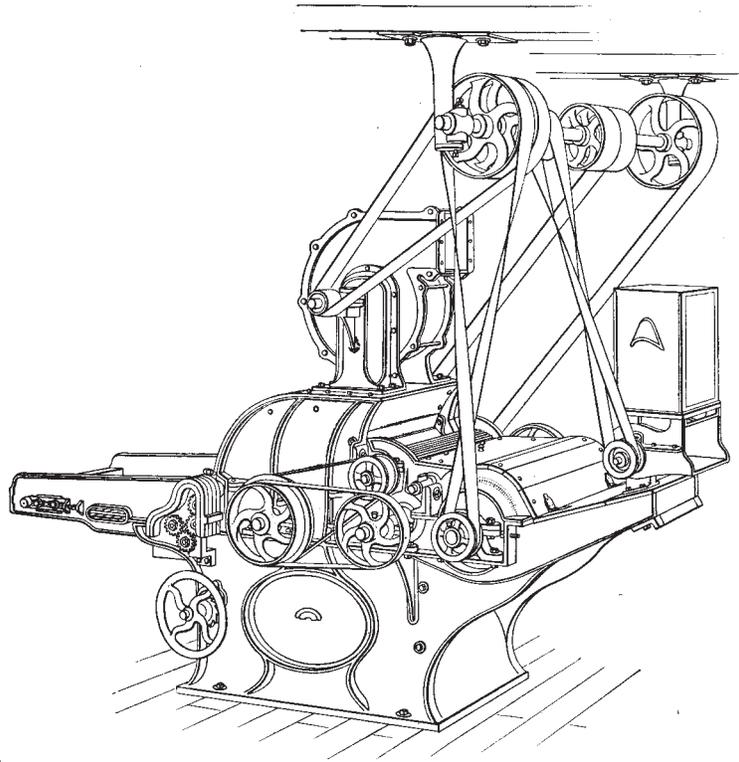
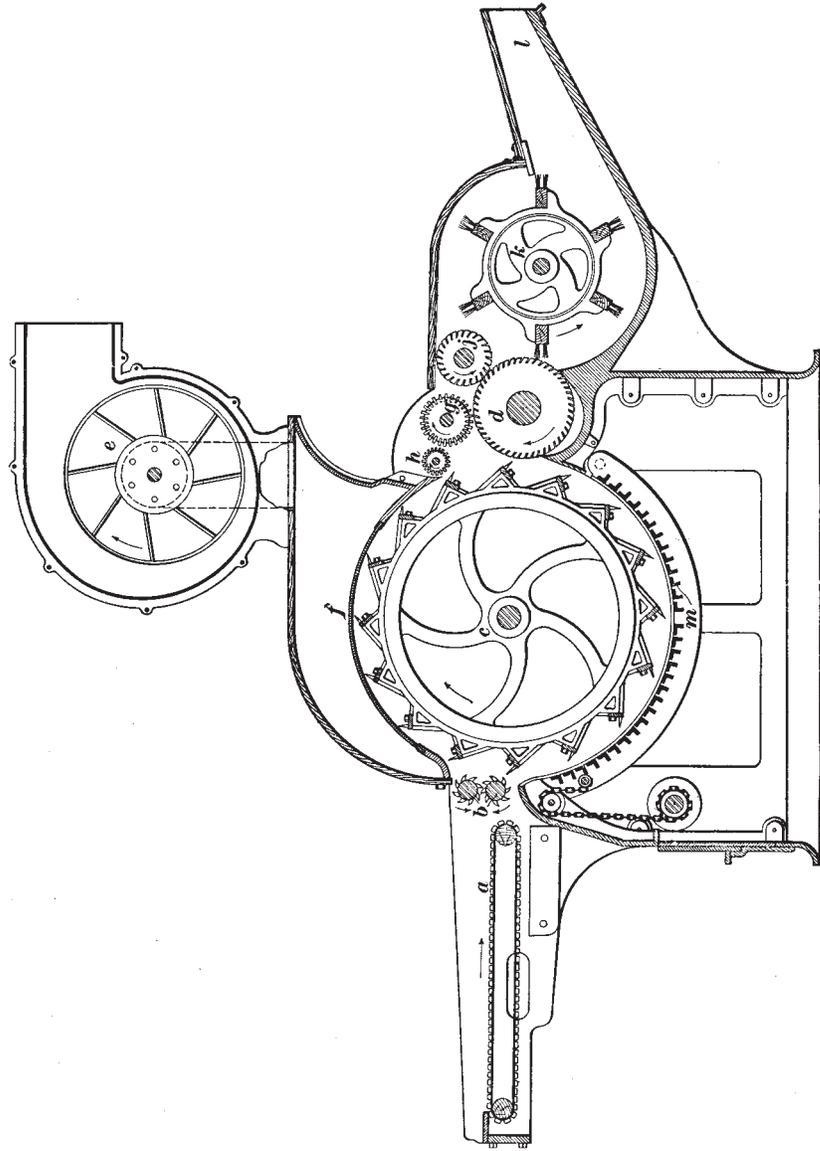

FIG. 8
FIG. 9
**19.** The **Goddard, or Curtis and Marble, burr picker** is favorably known to the trade and is found in some of the best mills. It is shown in Fig. 8 and in section in Fig. 9. The machine is constructed with the same objects in view as those previously described; namely, to remove burrs, shives, dust, and other foreign matter from the wool, and also to open the stock and make it lofty for the cards without breaking or injuring the fiber.
**22. Oilers.**—In Fig. 8, a square tank will be seen placed over the spout where the wool leaves the machine. This is a device for oiling the wool as it leaves the picker so that it
**23. Operation.**—In operation, the stock is fed to the traveling apron either by hand or by a self-feed. The apron *a*, Fig. 9, carries the wool to the cockspur feed-rolls *b* of the machine, where it is loosely held while being combed and opened out by the picker cylinder *c*. The wool is thus opened out at the start and the burrs and dirt loosened. The picker cylinder revolves upwards past the feed-rolls and carries the wool to the large burr cylinder *d*. The exhaust fan, or blower, *e* on the top of the machine creates a strong draft of air, which removes loose and small particles of dirt through the perforated brass screen *f*, and also lifts the fibers of wool from the picker cylinder, so that they are more readily caught by the teeth of the burr cylinder *d*. This cylinder takes the stock from the picker cylinder, receiving the fibers in the spaces between its toothed rings, while the burrs and other matter being larger than the fibers of wool remain on the surface of the cylinder and are removed by the rapidly revolving burr guard *g*. Working in connection with this burr guard is a smaller roll *h*, which prevents the burrs and refuse from being thrown on to the brush cover. The burrs thrown out by the burr guards are carried downwards by the picker cylinder, and such as do not drop through the grate *m* under the cylinder are carried forwards and thrown into a burr box through an opening beneath the feed-rolls of the machine. A small burr, or cotter, cylinder *j* operates in conjunction with the large burr cylinder, revolving slowly in the opposite direction and opening out cotted lumps of wool. The revolving brush *k* cleans the wool from both burr cylinders and delivers it through the spout *l* to the gauze room.
**24.** The Goddard picker, as shown in Fig. 8, requires a countershaft. The picking cylinder, fan, and revolving brush are driven direct from the countershaft, as is also the oiler, if used. The other parts of the machine are driven from the